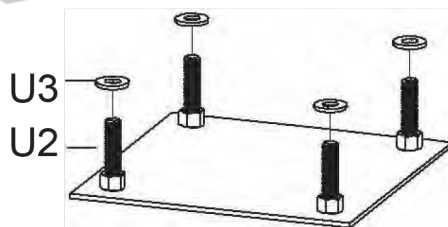

FIGURE 1A
- Slide a 16mm Thick Washer (U3) over each of the J-Bolts (U2) as shown in FIGURE 1A